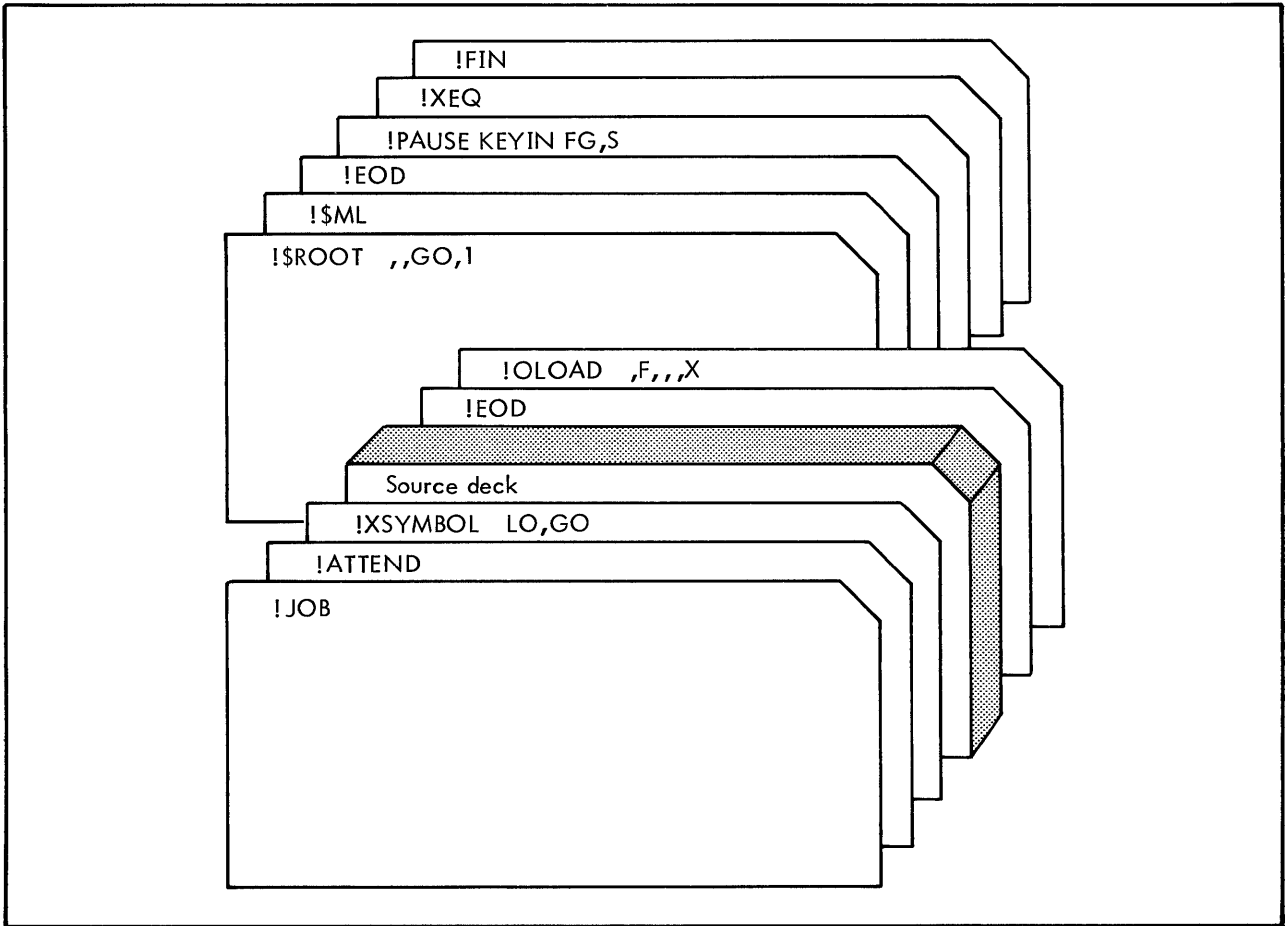

Figure 16. Load and Execute in Foreground Area
An example of loading an assembly from the background job stream that is to be executed in the nonresident foreground area of memory is illustrated in Figure 16. The deck structure for such jobs is identical to batch jobs except that the operator must key-in FG,S to access foreground memory and the foreground option (F) must be specified on the !OLOAD card (the default option is B for background).